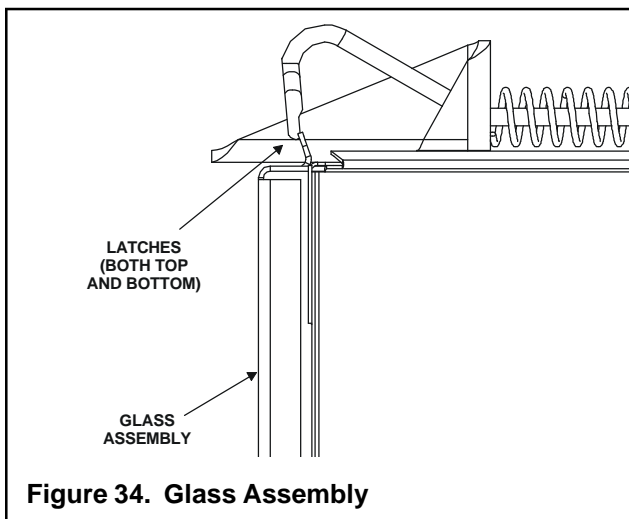

Figure 34. Glass Assembly
- Release the glass clips around the glass door. Carefully lift the glass up and out away from the appliance (see Figure 34).
- To replace the glass door, place the bottom edge on top of the bottom mounting brackets. Push glass against unit and latch the two fasteners at the top of the glass door and the two fasteners at the bottom (see Figure 34).